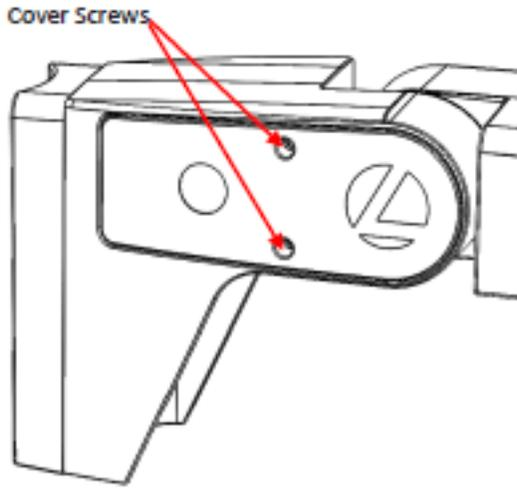

Figure 4
1. Loosen the cover screws of the arm cover (See figure 4) and remove the cover to gain access to the top half of the key-slot mounting feature. Set aside for reinstallation.
10. Ensure that the arm cover (See figure 4 on sheet 7) gasket is still in place and place it back in the channel if it has come loose.
4. Before mounting the luminaire, remove the arm cover (See figure 4 on page 7) and unpack the luminaire input wires, if necessary, to make routing supply wires into the arm cavity easier.
9. Reattach the arm cover (See figure 4 on sheet 7). Make sure that the cover gasket is securely placed in its groove and that all wires and tethers are move out of the way so that they are not pinched when the cover is put back into place. Tighten the cover screws to 18-20 in-lbs.